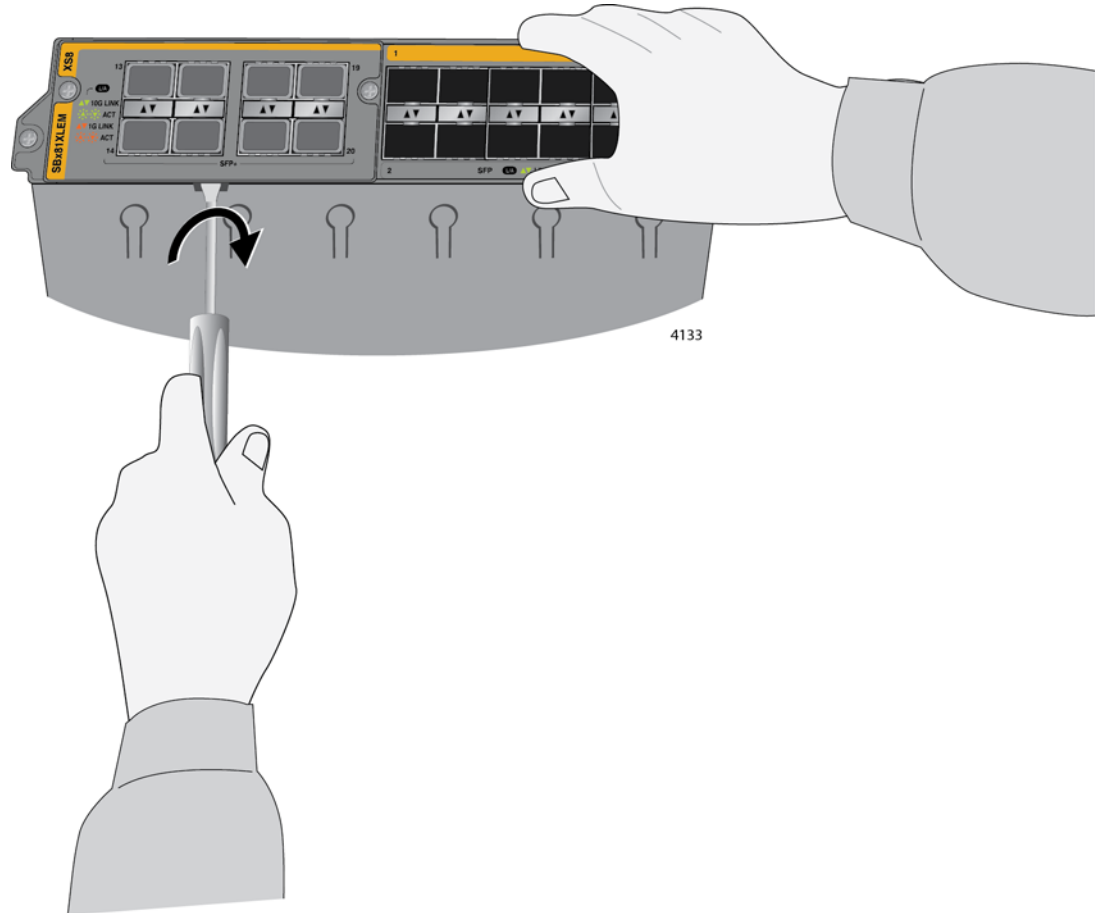

Figure 162. Disconnecting the Expansion Module from the AT-SBx81XLEM Line Card
5. Lift the front of the line card and carefully insert the tip of a flathead screwdriver into the slot on the bottom panel of the expansion module. Gently twist the screwdriver to disconnect the module from the connector in the line card. Refer to Figure 162.